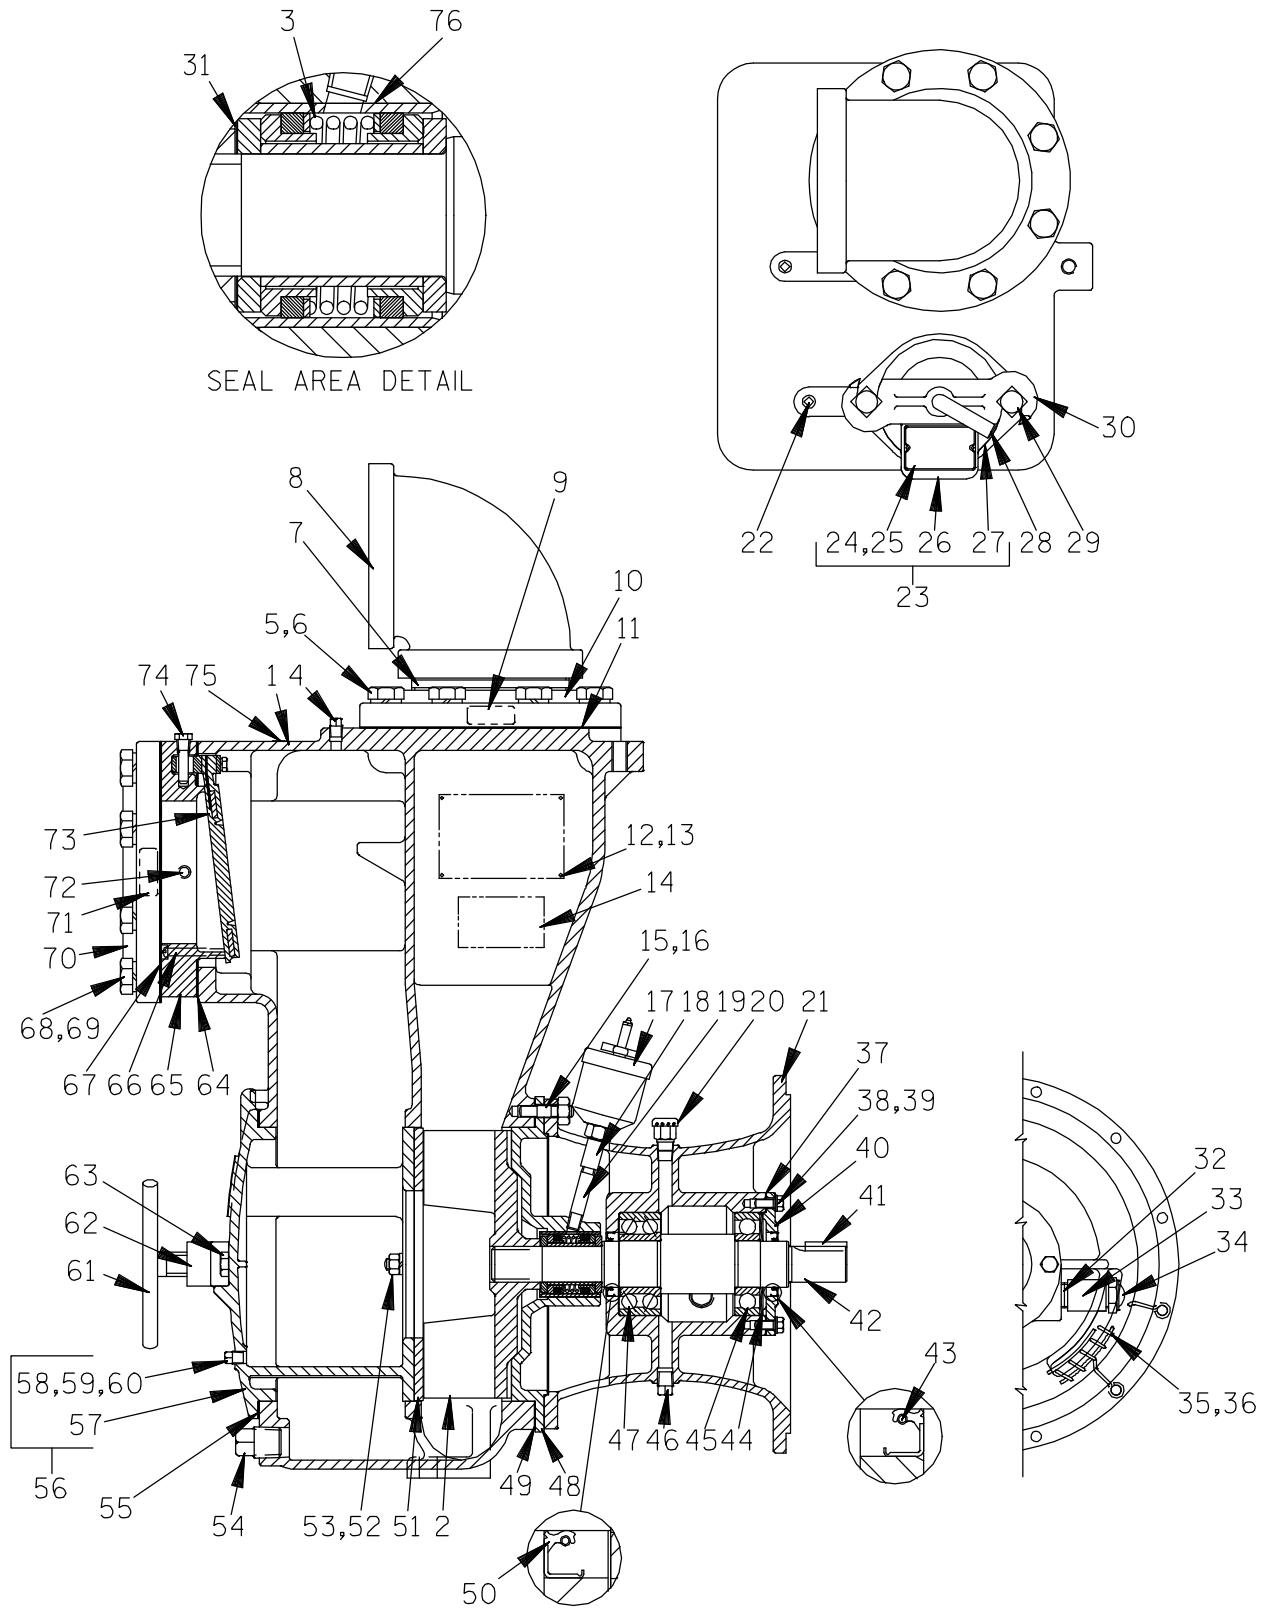

Figure 2. 16C2-(SAE 4/10) Pump End Assy
(Figure 2)
Remove the hardware (6 and 7) securing the intermediate to the engine bellhousing. Remove the intermediate guards (35 and 36, Figure 2), and separate the assemblies by pulling the intermediate straight away from the engine.
As the assemblies separate, the flexible portion of the coupling assembly (3) will remain on the shaft. To remove the coupling from the shaft, unscrew the two allen head setscrews from the bushing (2). Screw one of the setscrews into the puller hole on the circumference of the bushing. As the coupling and bushing separate, remove the bushing, and slide the coupling off the shaft. Remove the shaft key (41, Figure 2).
Shaft and Bearing Reassembly and Installation (Figure 2)
Position the inboard oil seal (50) in the intermediate housing bore with the lip positioned as shown in Figure 2. Press the oil seal into the housing until the face is **just flush** with the machined surface on the housing.